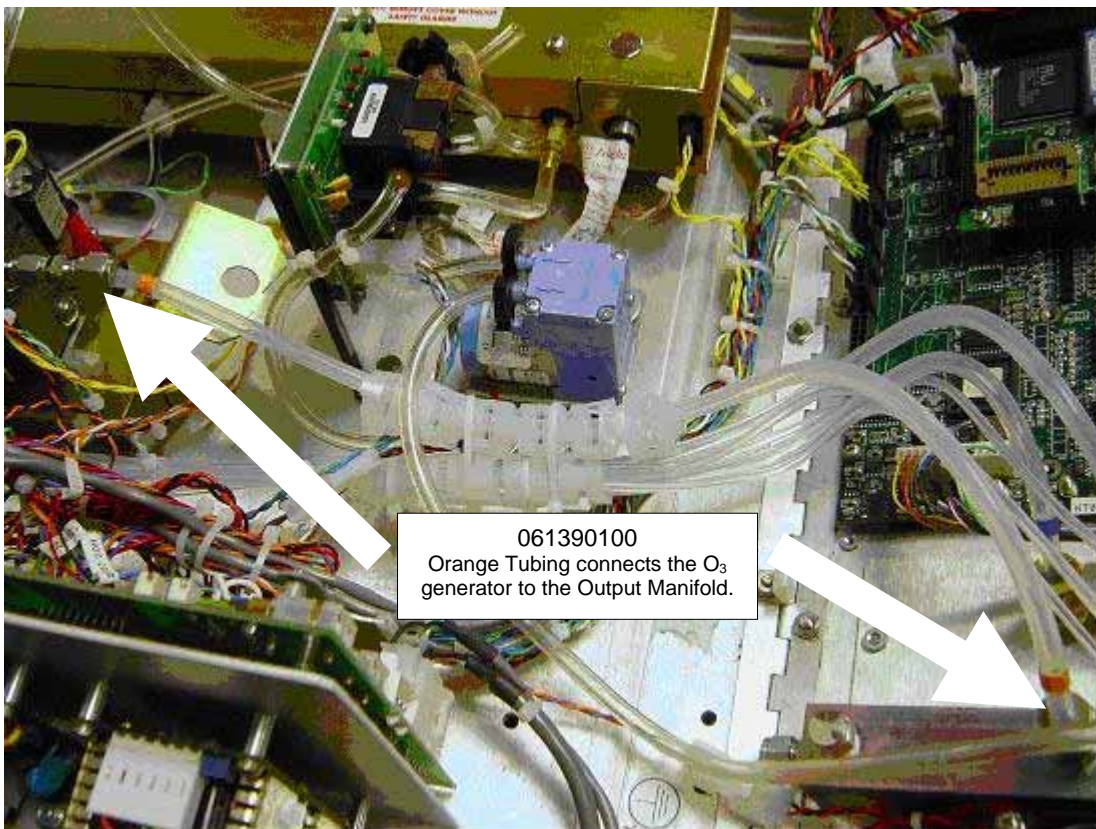

Figure 7
12. Connect the end of the orange labeled tubing with the stainless steel reducer to the output of the ozone generator and the other end of the orange tubing to the output manifold. See Figure 7.